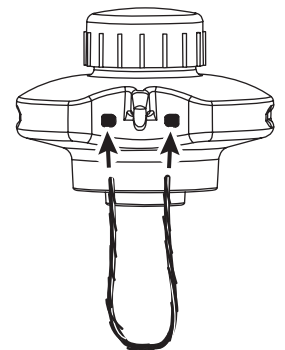

Fig. 5
1. Insert each end of the replacement line into the holes on either side of retention hook (Fig. 5).